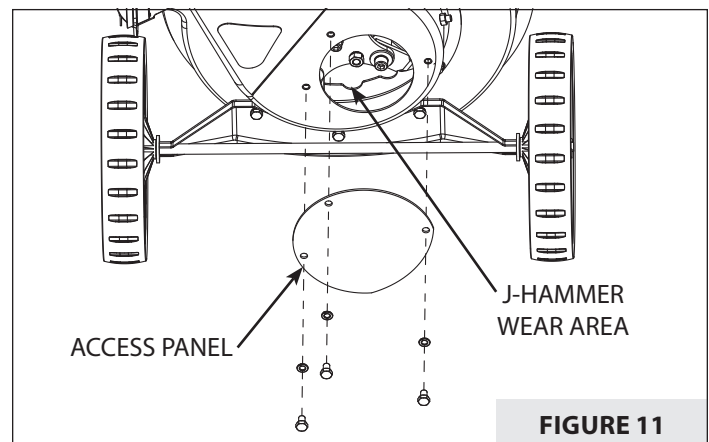

FIGURE 11
2. Remove the small circular access panel from the back of the shredder housing. **SEE FIGURE 11**.
3. Inspect the cutting edges of the triangular hammers and J-hammers. **SEE FIGURES 11 AND 12**.